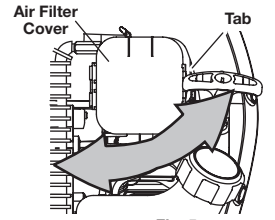

Fig. 5
- Open the air filter cover and remove the air filter (Fig. 5).
- Reinstall the air filter cover and press down until it snaps into place (Fig. 5).